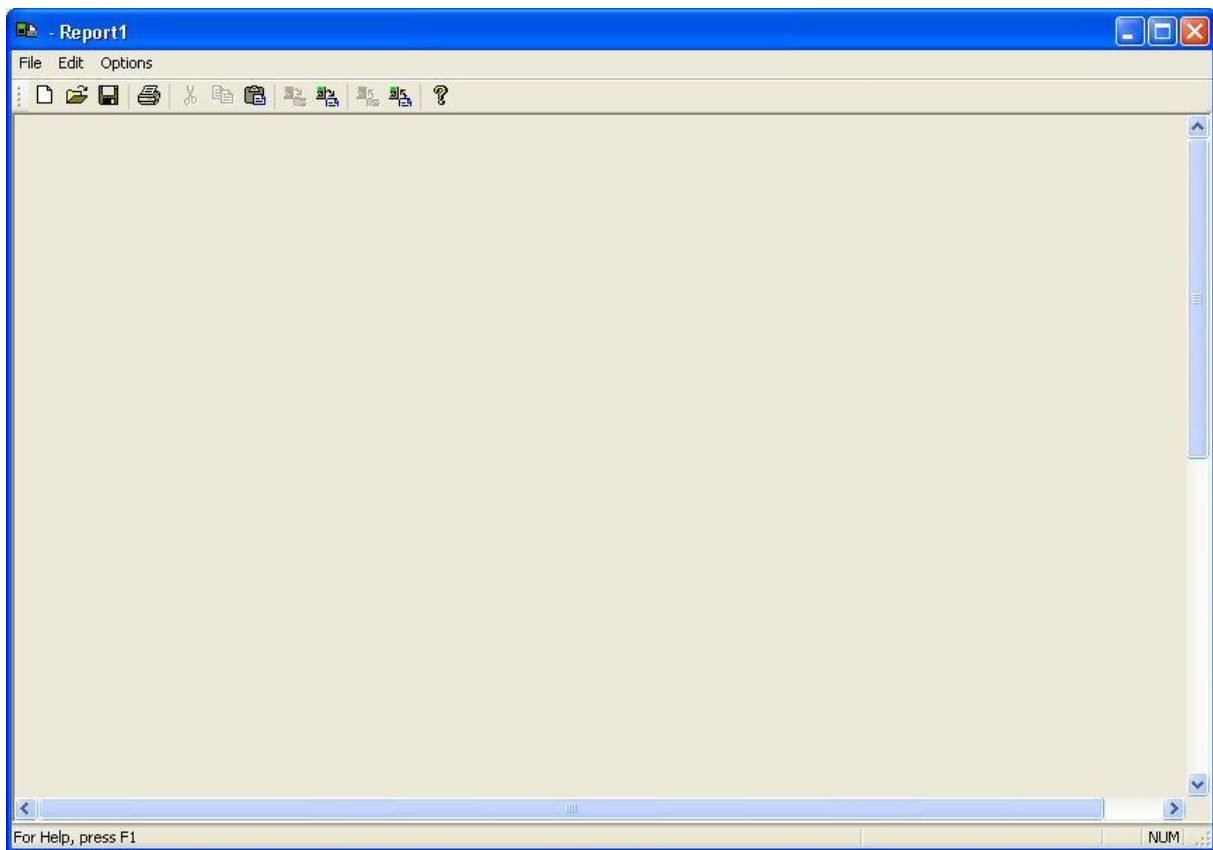

Figure 17. Report Configuration
1. Access Report Editor by selecting *File/New/Report Configuration* from the microMate menu bar. A display similar to that shown in Figure 17 below will appear.